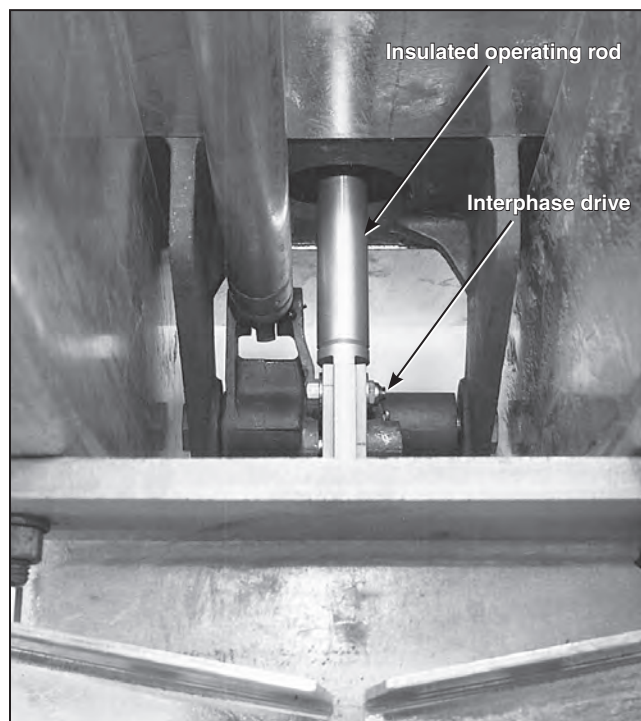

Figure 27. Check that each insulated operating rod has been connected to the interphase drive.
- Each insulated operating rod is connected to the interphase drive (see Figure 27)